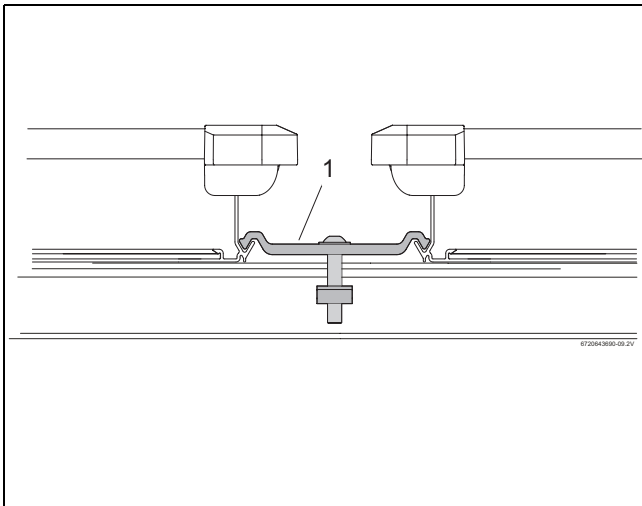

Fig. 47 Double sided collector tensioner between 2 collectors
- Tighten the screw on the double sided collector tensioner with the size 5 spanner. The hold-down retainer (Fig. 47, [1]) on the collector tensioner now grips the lower collector edge.